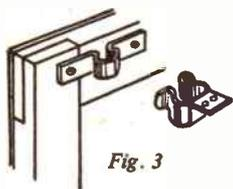

Fig. 3
Spring catches No. 6224 may be fitted to the doors as shown in Fig. 3. Fix the catch to the door and the spring to the inside of piece (A) of the cabinet. These